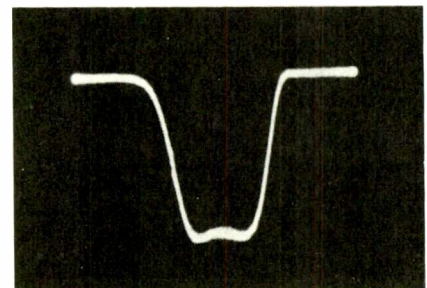

Figure 5. Typical Response Curve.
Let us return to our alignment set-up for our single channel converter. Referring to the Sweep and Marker Generator Frequency Chart, we see that channel 27 operates between 548 and 554 megacycles. Let us assume that the particular signal generator employed in this set-up specifies that column B be used. This shows that the center frequency will be approximately 184 megacycles. The (3) indicates that the third harmonic of this frequency will produce the desired UHF frequency. After setting the center frequency at approximately 184 megacycles, a response curve should be visible on the scope. You will note, however, that the width of the response curve is quite narrow. This is brought about by the fact, that, since we are using the third harmonic of the sweep signal, the total frequency being swept is three times as great as the amount that is swept at the fundamental frequency. This makes it necessary to reduce the amount of frequency deviation to a point only about 1/3 as wide as is required when using the fundamental frequency. Do not adjust the sweep deviation to too small a value or the sides of the pattern will not be visible. A typical response curve is shown in Figure 5.